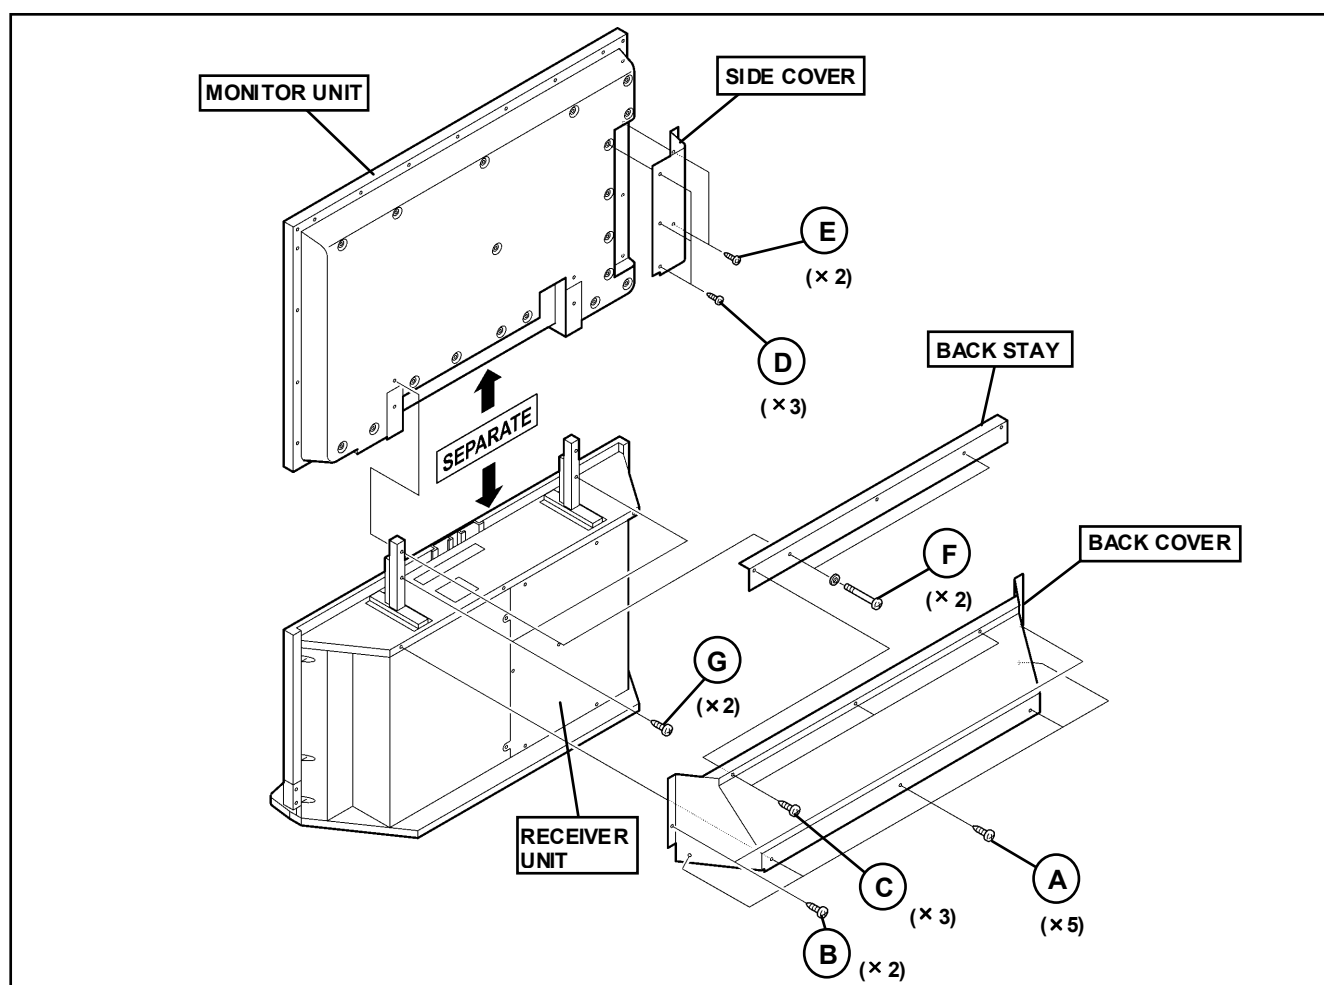

Fig. 2
1. Remove the 5 screws marked **A** as shown in Fig.2.
2. Remove the 2 screws marked **B** as shown in Fig.2.
3. Remove the 3 screws marked **C** as shown in Fig.2.
5. Remove the 3 screws marked **D** as shown in Fig.2.
6. Remove the 2 screws marked **E** as shown in Fig.2.
8. Remove the 2 screws marked **F** as shown in Fig.2.
9. Remove the 2 screws marked **G** as shown in Fig.2.
10. Separate the MONITOR UNIT and LOWER BLOCK as shown in Fig.2.